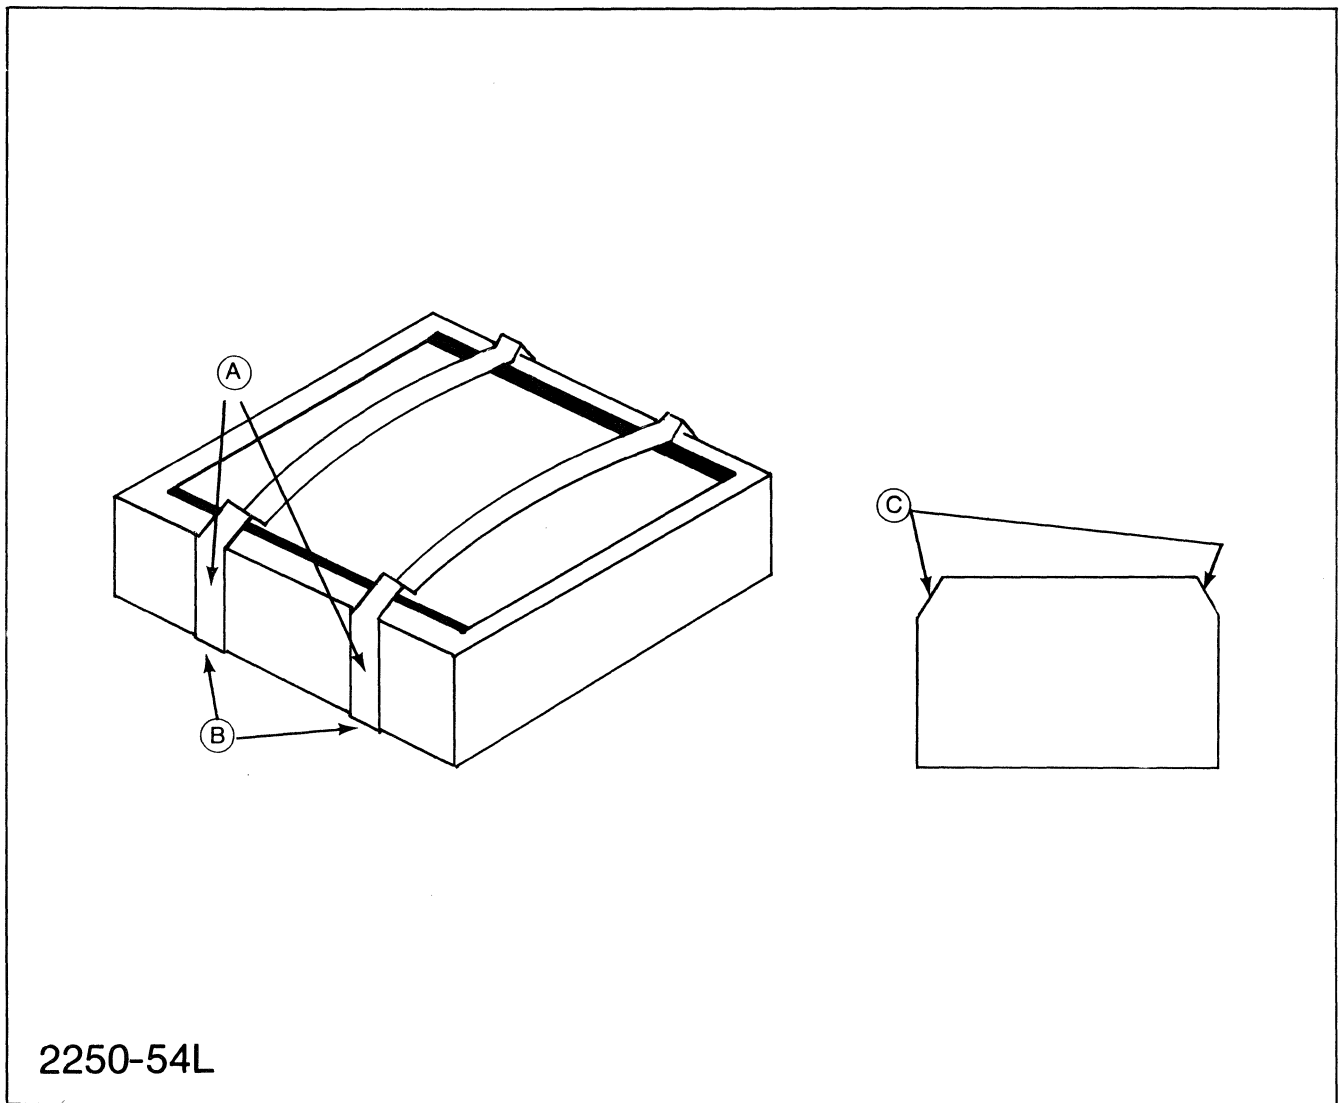

Figure 4-2. Chip Socket
- c. Twist the bottom portion of the blade away from the socket to free the retaining clip (A) from the bottom edge of the socket (see figure 4-2).
- d. When the retaining clip (A) is free, lift it up and over the chip.
- c. Remove the retaining clips from the socket if they are in place (see figure 4-2).
- d. Place the chip in the socket, locating the two flat corners (C) of the socket facing the two flat corners of the chip. The trace side of the chip package must be on the bottom when the chip is placed in the socket.
- f. Press down with a thumb on the retaining clip (A) and press the retaining clip over the edge of the socket until it snaps under bottom edge of the socket (B).